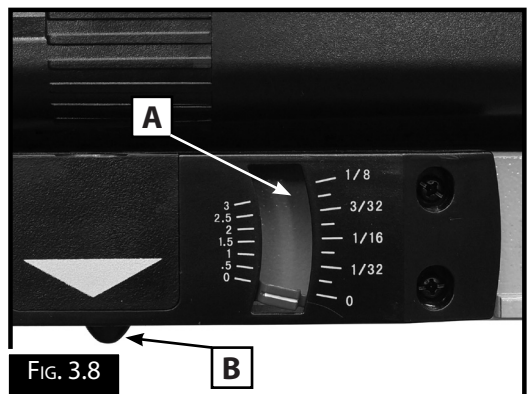

FIG. 3.8
**Depth of Cut Scale:** The Depth Of Cut Scale, located on the front of the machine, is a convenient way to quickly determine how much material is being planed off in one pass. (Fig. 3.8)
2. Crank the raising / lowering handle until the button (B) comes in contact with the workpiece.